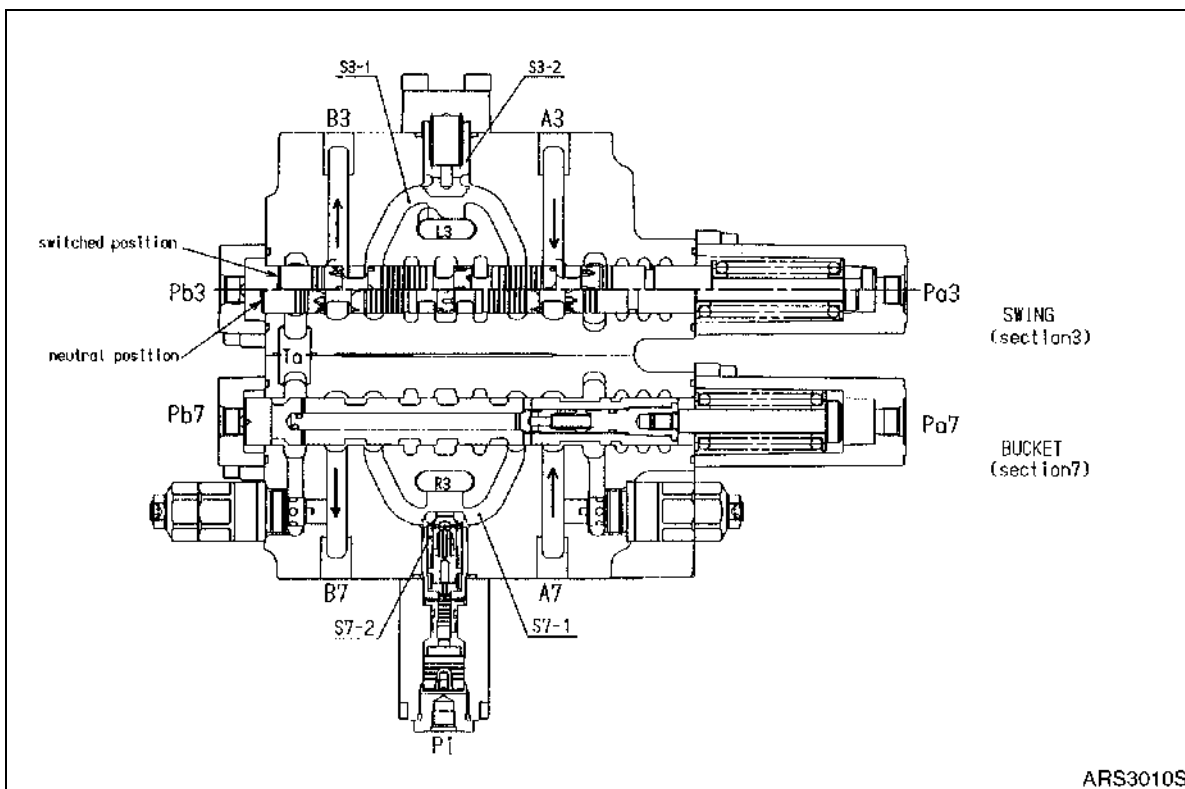

Figure 5
1. When shifting swing spool by increasing pressure of swing (section 3, Figure 5) pilot port (Pb3 (Pa3)), neutral port (L1) is closed. Oil supplied to port (P1) flows through parallel passage (L3), load check valve (S3-2), passage (S3-1) and spool, it then flows to port (B3 (A3)). Return oil flows through port (A3 (B3)) to spool and is returned to tank passage (Ta).
When bucket spool is shifted by increasing pressure of bucket (section 7, Figure 5) pilot port (Pa7), neutral passage (R1) is closed. Oil supplied to port (P2) flows through parallel passage (R3), load check valve (S7-2), passage (S7-1), spool and into port (B7). Oil returns through port (A7) and spool to tank passage (Ta).